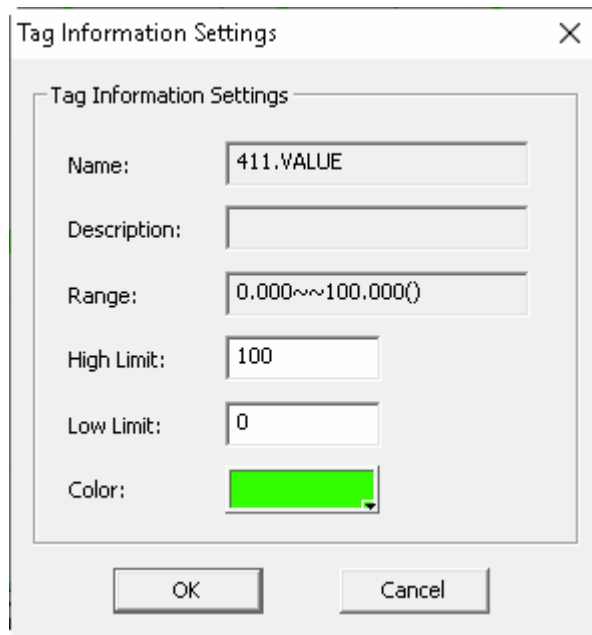

Figure 6-5 Tag information setting interface of tag area
- Set coordinate up and down axis and tag color: double click tag information anywhere, pop up "Tag information setting" interface shown in Figure 6-5 . Users can set to "Coordinate up and down axis" and "Tag color"